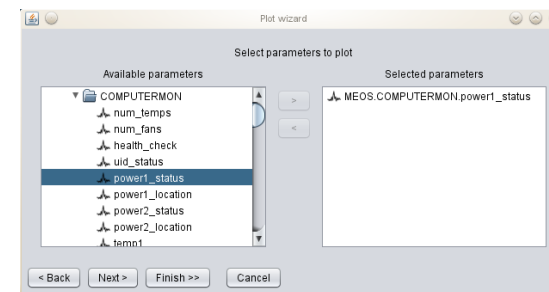

Figure 20: Selecting variables
4. Select the variables to be plotted (see figure 20). Browse through all available variables, and select candidate ones by clicking on the right-arrow button (top between the two fields). Selected parameters will show up in the right-most field.